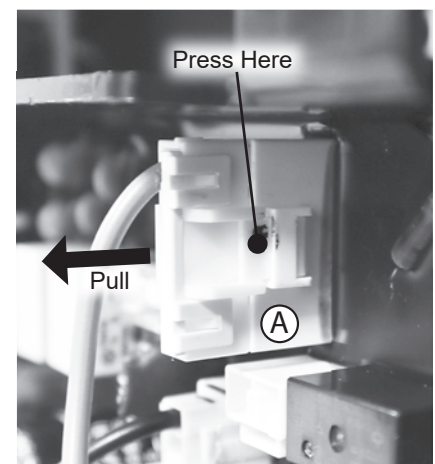
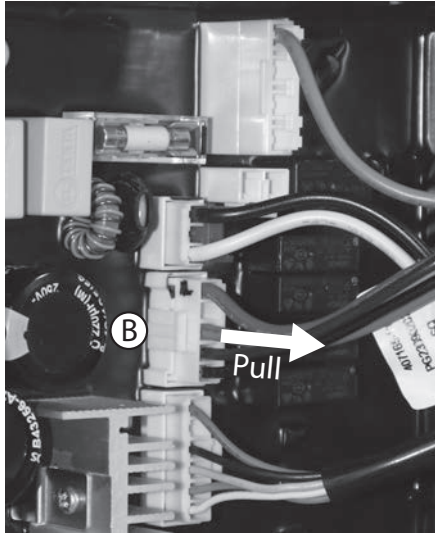

Figure 59 - Wiring harness A removal.
Figure 60 - Wiring harness location
- 7 Using Figure 59 & Figure 60 as reference, disconnect wiring harness A and B from the control board.
NOTICE: To remove wiring harness **(A)**, depress the spot shown in Figure 59 while pull the harness away from the control board.
- 8 Disconnect wiring harness **(B)** shown in Figure 60.